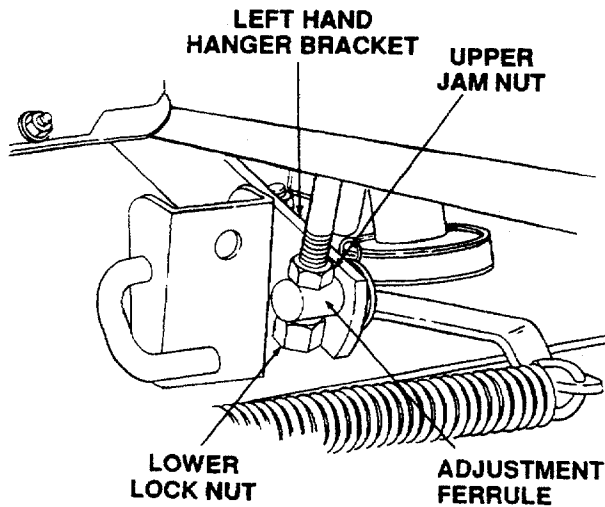

Figure 30
8. Side-to-side leveling is obtained utilizing the adjustment ferrule and left hand hanger bracket. (Refer to Figure 30.)
9. Loosen upper jam nut on hanger bracket. Turn lower lock nut clockwise to raise left side of mower deck. Turn lock nut counterclockwise to lower left side of mower deck. (Refer to Figure 30.)